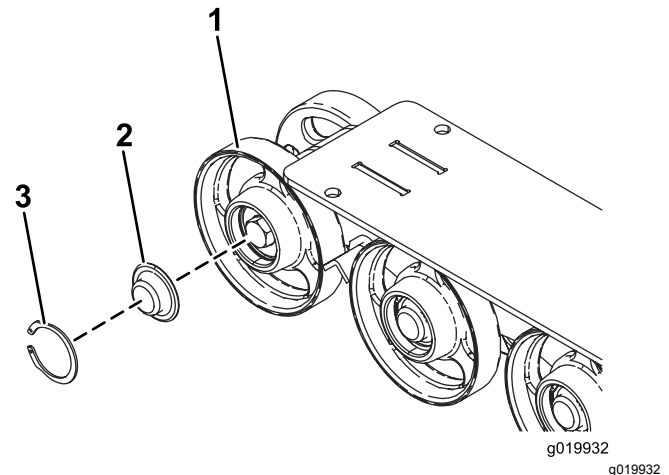

Figure 51
5. Remove the snap ring and cap from a road wheel (Figure 51).
6. Check the grease under the cap and around the gasket (Figure 51). If it is dirty, gritty, or
8. Place the greased road wheel cap over the bolt head (Figure 51).
9. Secure the road wheel cap with the snap ring (Figure 51).